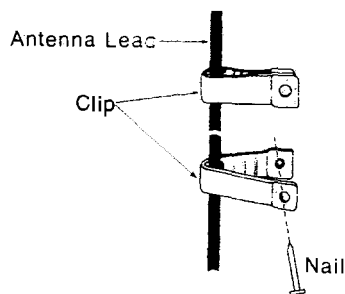

Fig. 3
- If necessary the plastic straps that come with this unit, may be used to secure the antenna lead-in wire (Fig. 3) around the interior of the house.